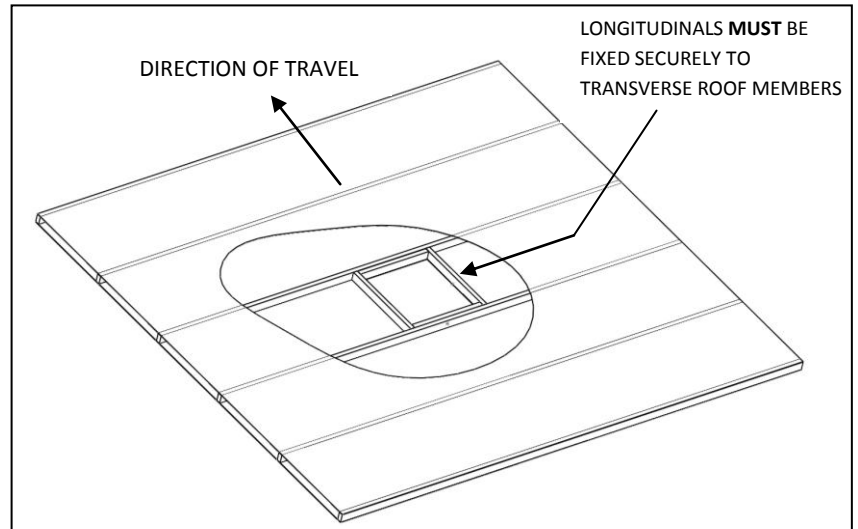

Fig 3: Shows an ideal roof structure with strong longitudinals and a 14' hole boxed
- The square hole in the roof (356 x 356mm, 14” x 14”) **MUST** be boxed up with minimum 20mm square timber to provide a structure strong enough to withstand the compression of the installation bolts. This is also to ensure that air is not drawn into the roof cavity (Fig 3 & 4). Remember to leave access for wiring.
- Longitudinals **MUST** be fixed securely to the transverse roof members to transfer load (see Fig 3).